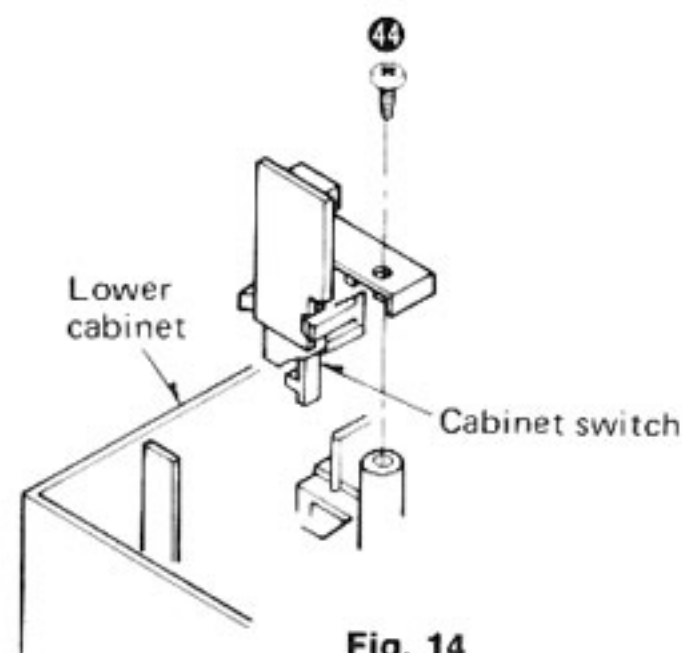

Fig. 14
3. Remove the cabinet switch setscrew (Fig. 14: 44).